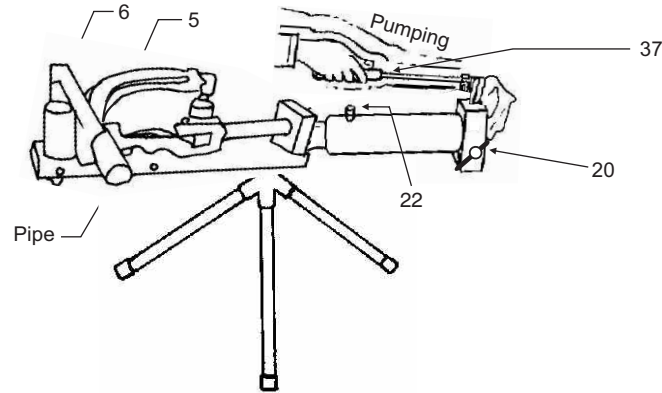

Figure 6
Step 4 : Tight release valve (#20) in clockwise direction as shown in figure 6
Step 6 : Start pumping with handle (#37) up and down to create hydraulic pressure as shown in figure 6
Step 7 : After bending the pipe on desired angle, loose release valve (#20) in anti clockwise direction to release the pressure as shown in figure 6
Step 8 : Remove sliding bar (#6) & pipe from the former (#5) as shown in figure 6